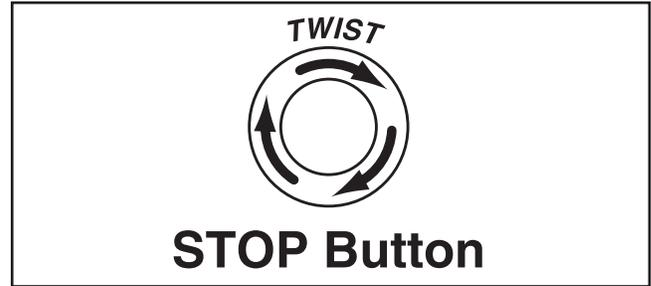

Figure 21. Resetting Emergency Stop button.
8. Twist Emergency Stop button (C) clockwise until it pops out (see **Figure 21**). This resets button so machine will start.